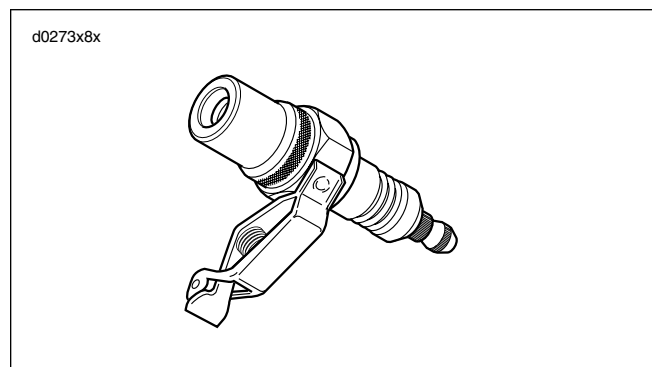

Figure 5-40. Spark Tester
2. See Figure 5-40. A SPARK TESTER (Part No. HD-26792) must be used to verify adequate secondary voltage (25,000 volts) at the spark plug.